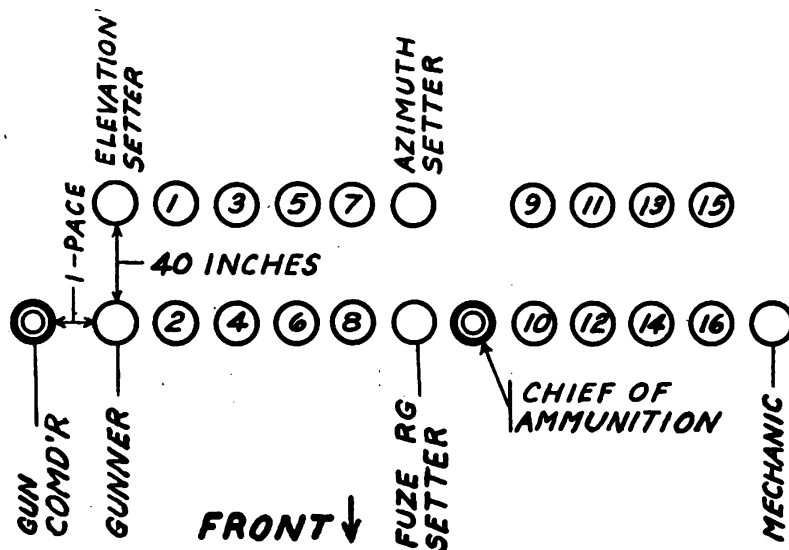

FIGURE 1.—Formation for 105-mm gun section.
Q. How is the gun section formed? *A.* See figure 1.